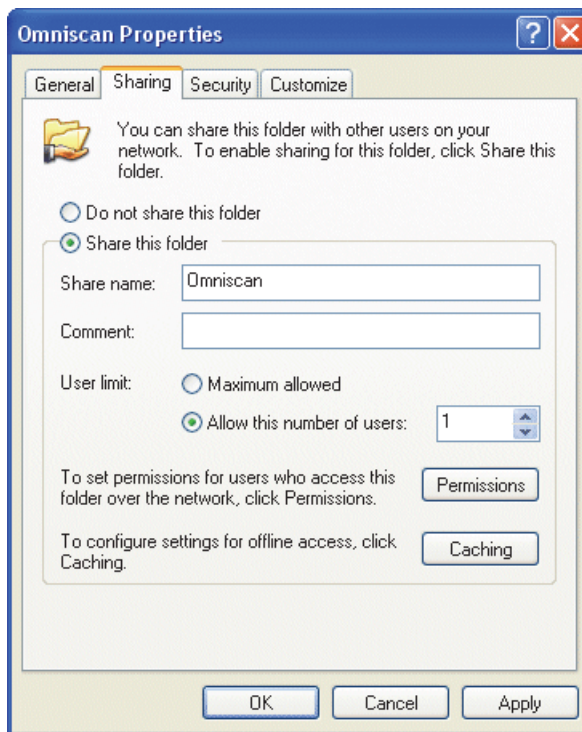

Figure 14-7 The Omniscan Properties dialog box (Windows XP)
3. In the **Omniscan Properties** dialog box, click the **Sharing** tab (see Figure 14-7 on page 289).